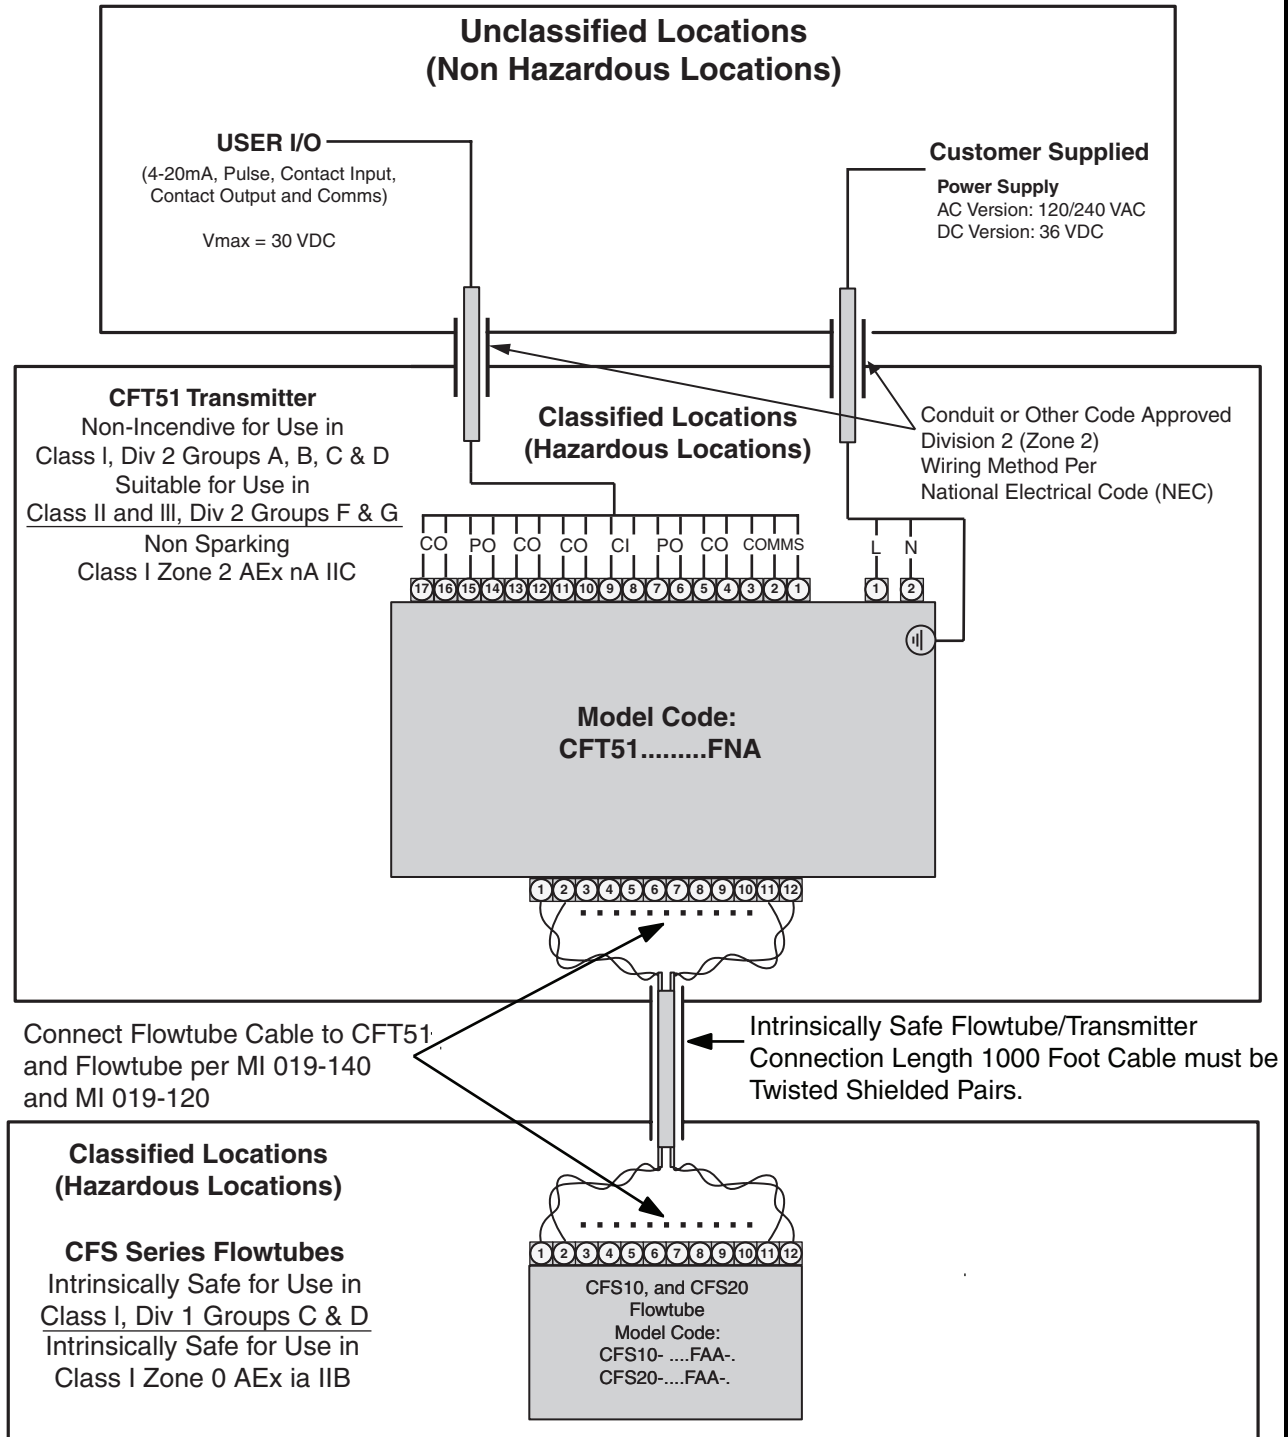

Figure 2. Flowtube in Class I, Division 1 (Intrinsic Safety) and Transmitter in Class I, Division 2 (Non-Incendive) Area
1. Figure 2 must not be revised without prior FM approval.